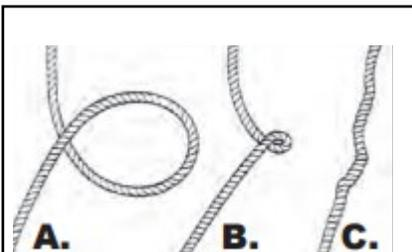

Figure 44
3. Ensure the cable is not kinked, or coiled up as shown in **Figure 44**. Uncoil as necessary or else **damage will occur**.